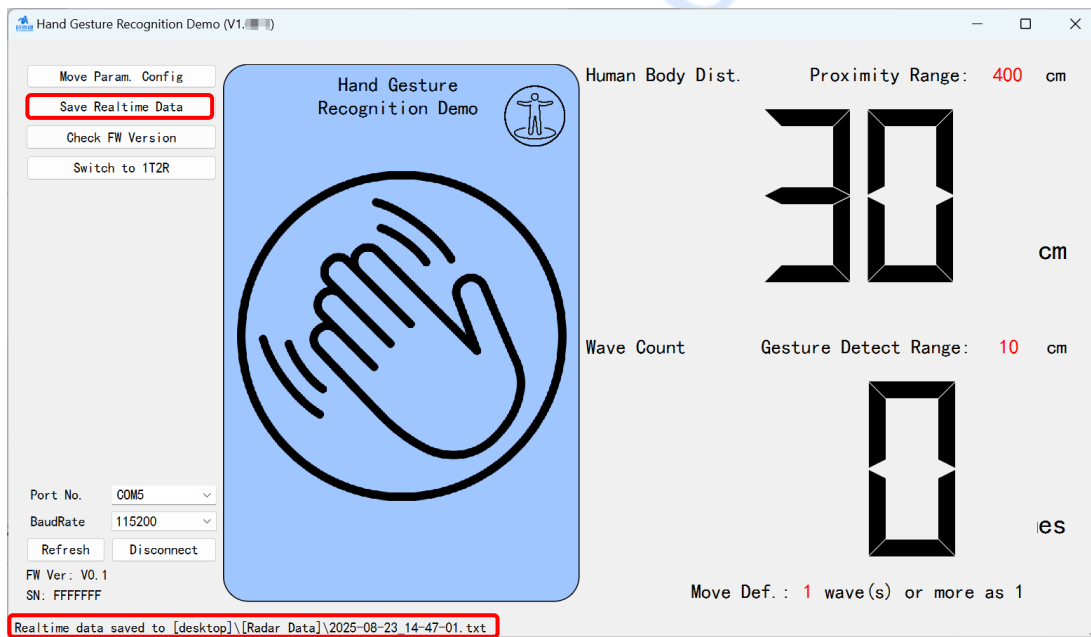

Figure 5-7 Stop saving realtime data
3. The button text will revert to "Save Realtime Data" (see Figure 5-7)